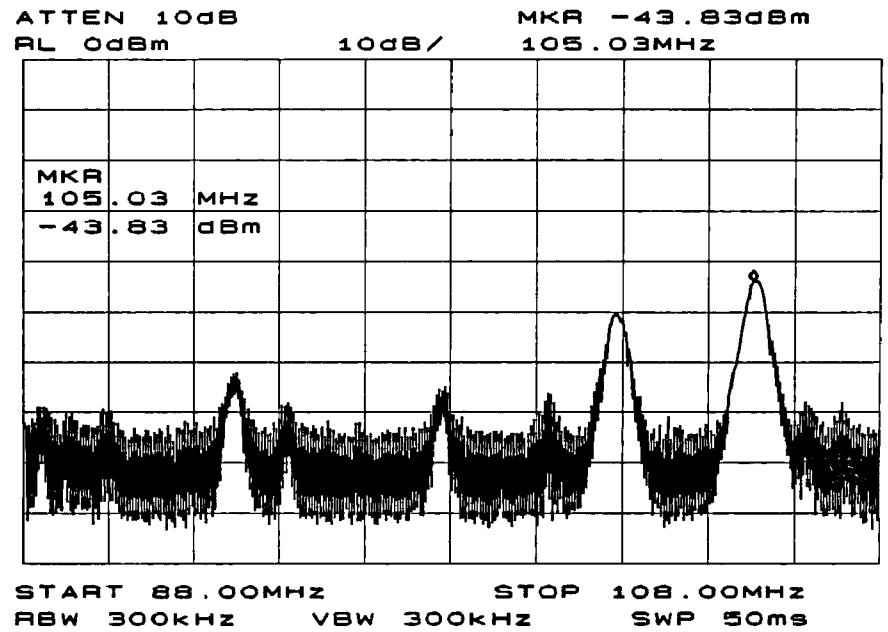

Figure 3-2. Marker Placed on a Signal to be Demodulated
2. Press **DEMODO** to view the menu of demodulation functions. Activate either **MARKER NORMAL** to move the marker to a signal of interest, or **PEAK SEARCH** to place a marker on the highest-amplitude signal. See Figure 3-2. Press **FM DEMOD** to hear the audio information. Adjust the volume using the keys in the upper right-hand corner of the analyzer.